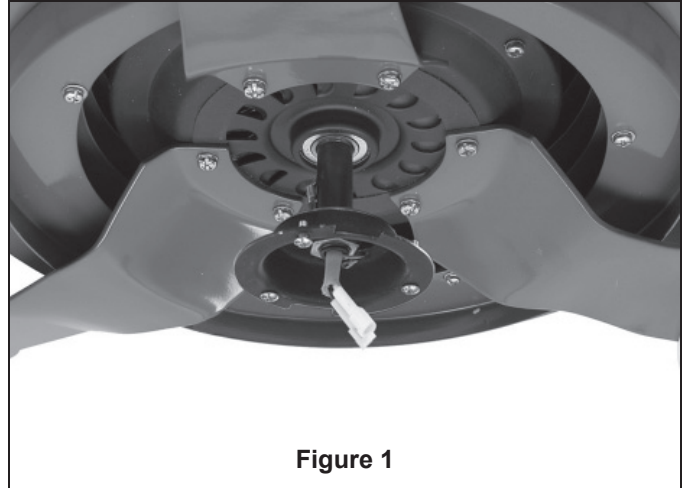

Figure 1
3. With a Philips screwdriver, tighten washer-head screws with fiber washers. Install blade holder to blade medallion and plastic blade. (Figure 1)
1. Loosen three screws and remove one screw from support flange. (Figure 1).